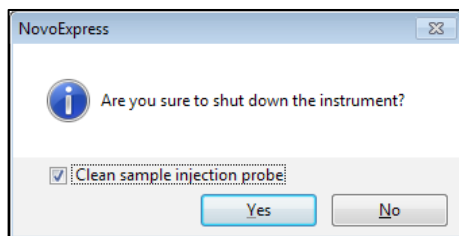

Figure 48. Message in NovoExpress Software when Shutting down
- 2 Select **Clean sample injection probe** option and then click **Yes** button in the prompted window (Figure 48). NovoExpress software will guide you to conduct the cleaning SIP procedure.